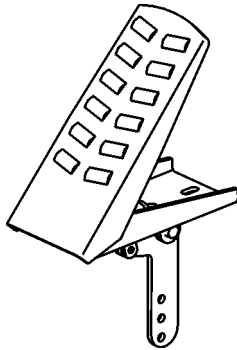

Figure 13. Blade Speed Control Foot Pedal
1. The foot pedal (Figure 13) solely controls blade speed. The position of the foot pedal determines the blade speed. Slow blade speed is obtained by slightly depressing the pedal. Maximum blade speed is obtained by fully depressing the pedal.